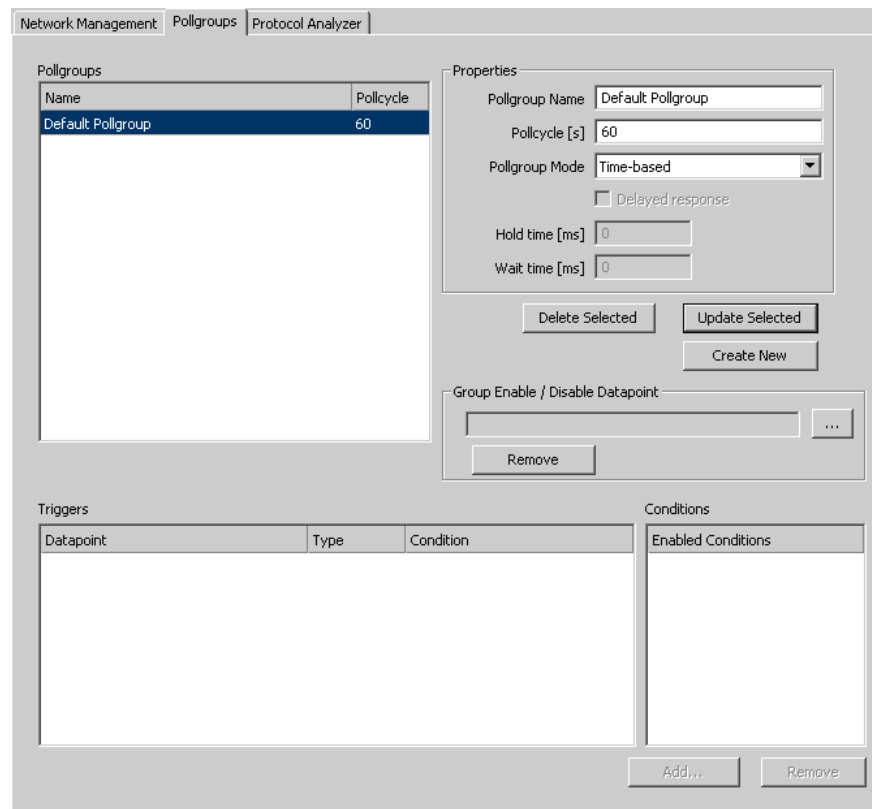

Figure 124: Pollgroup Management dialog.
2. Open the **Pollgroups** tab. This shows the dialog displayed in Figure 124.
2. In the **M-Bus Management** dialog, open the **Pollgroups** tab. This displays the poll groups management tab displayed in Figure 124.